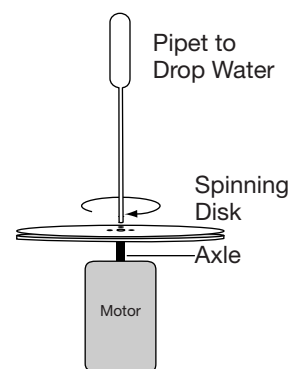

Figure 2
3. Place the plastic rotating disk (with a center hole) onto the exposed motor axle of the chromatography centrifuge. Set the filter paper on the disk. The axle should penetrate the center hole of the filter paper to secure the paper to the rotating disk (see Figure 2.)